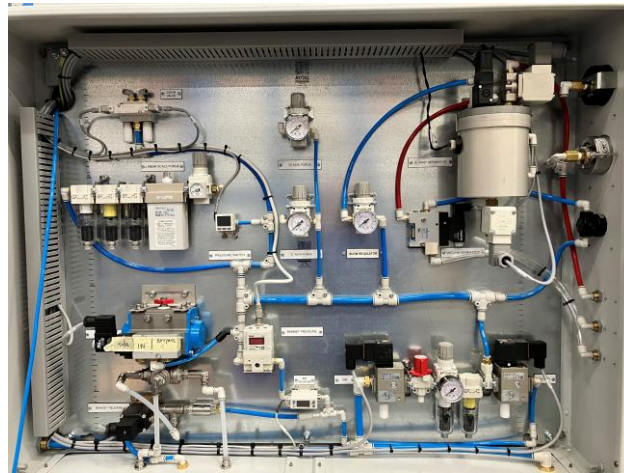

Figure 3 - Pneumatics / hydraulics cabinet
2. The pneumatics/hydraulics cabinet is located at the rear of the machine. See *Figure 3 - Pneumatics / hydraulics cabinet*.